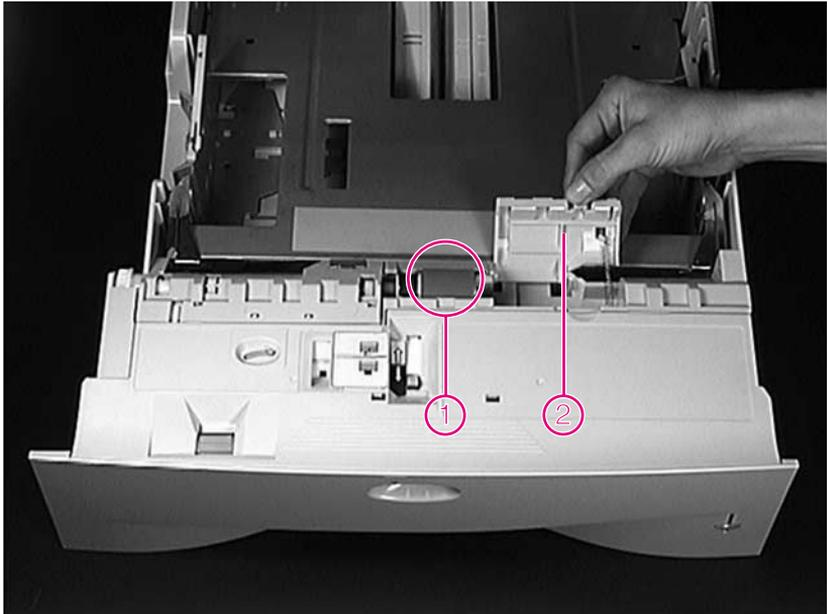

Figure 15 Removing the separation roller
- 1 With one hand, lift the return cover (Figure 15, item 2).
- 2 With the other hand, pinch the separation roller tab (item 1), and slide the separation roller off of the shaft and remove.